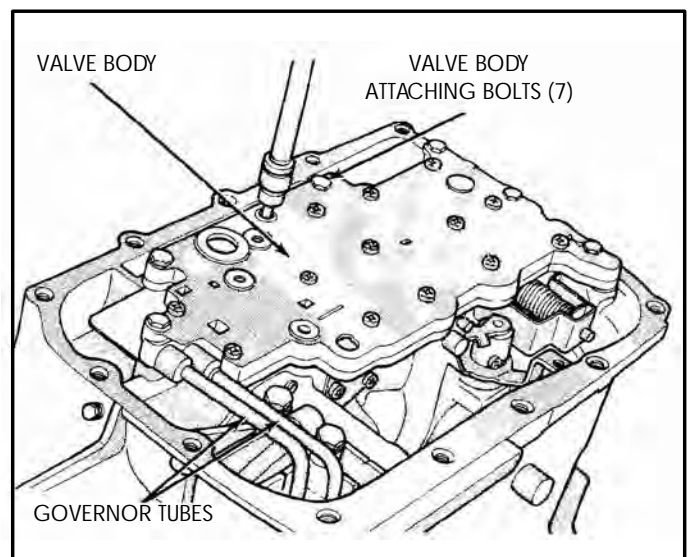

Figure 35
13. Remove the seven valve body attaching bolts, as shown in Figure 35.